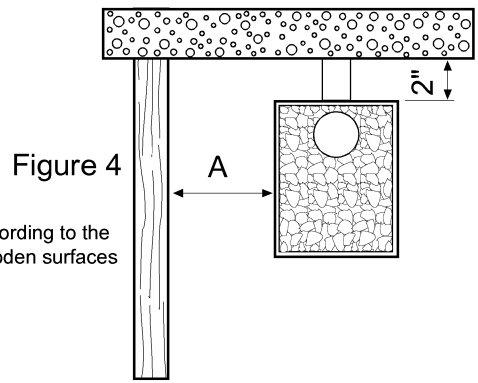

Figure 4
4. If the wall has been bedded in, a 2" vent hole between the wall and the vertical surfaces of the stove is enough. (Figure 4)